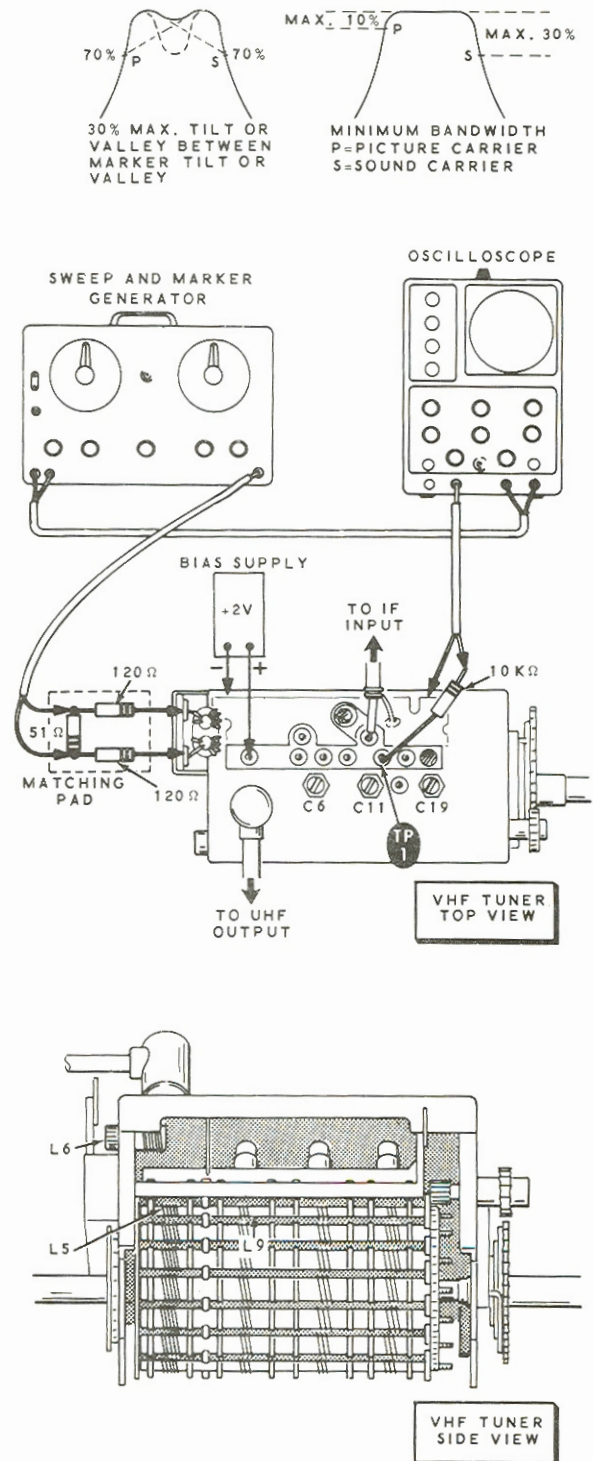

Figure 41
Refer to Figure 41 for the following steps.
- ( ) Connect the oscilloscope and the bias supply to the VHF tuner as shown in Figure 41.
- ( ) Adjust coil L6 for a maximum gain and bandwidth. See Figure 41.